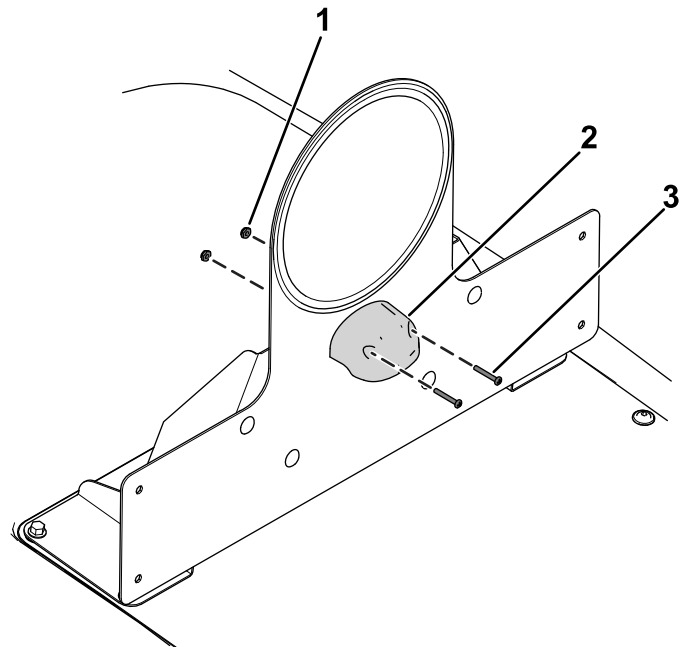

Figure 34
- Secure the plate light to the assembled speed-plate mount using 2 locknuts (#6) and 2 screws (#6 x 1 inch) as shown in Figure 34.
- Connect the wire harness to the plate light (Figure 34).